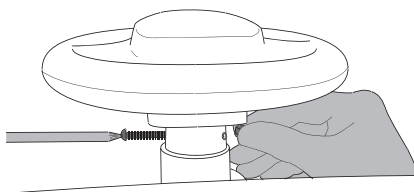

Figure 4
- Insert the round head screw through the round hole, (NOT the square hole) in the steering wheel so that it comes out the other side. Place the nut in the square hole and tighten the screw in place using a Phillips head screwdriver. See Figure 4.